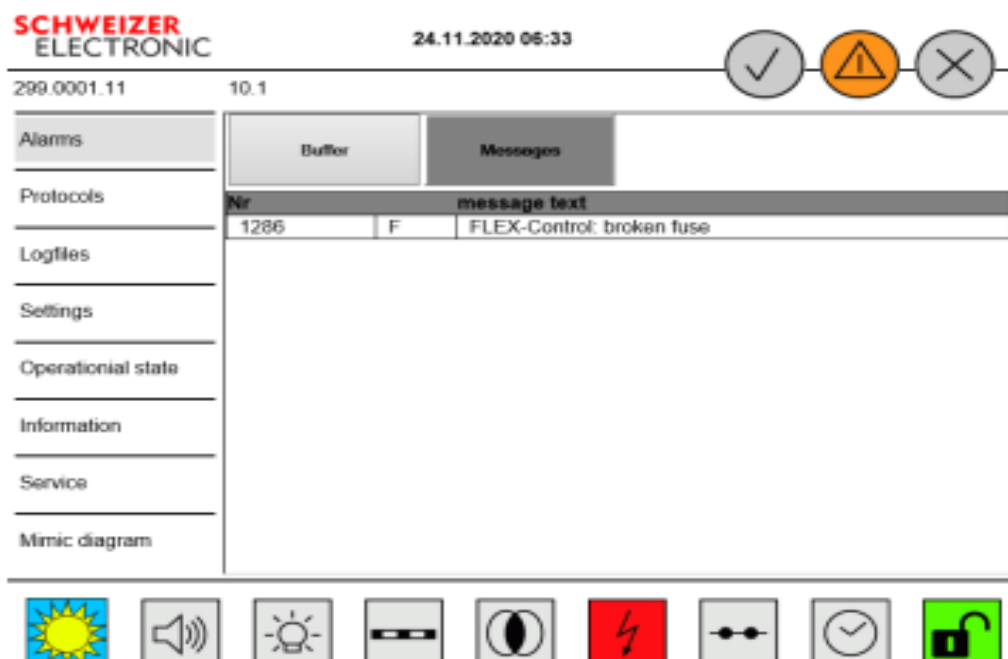

Figure 2 - Flex Life
- 5.4 Scroll through the Flex Life Log Files to check there are no failures present, if one is noted investigate and correct the issue, see Figure 2.